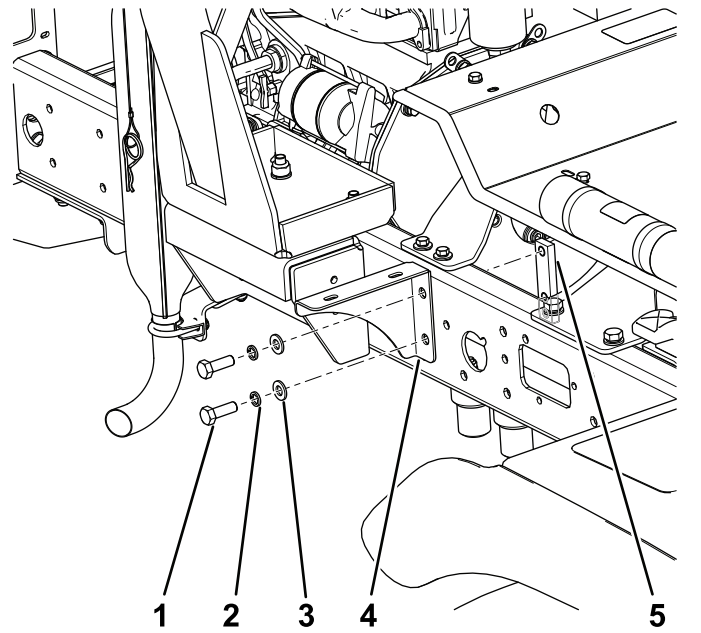

Figure 9
- Remove the 2 fasteners, 2 spring washers, and 2 washers securing the fuel-tank bracket to the machine (Figure 9).